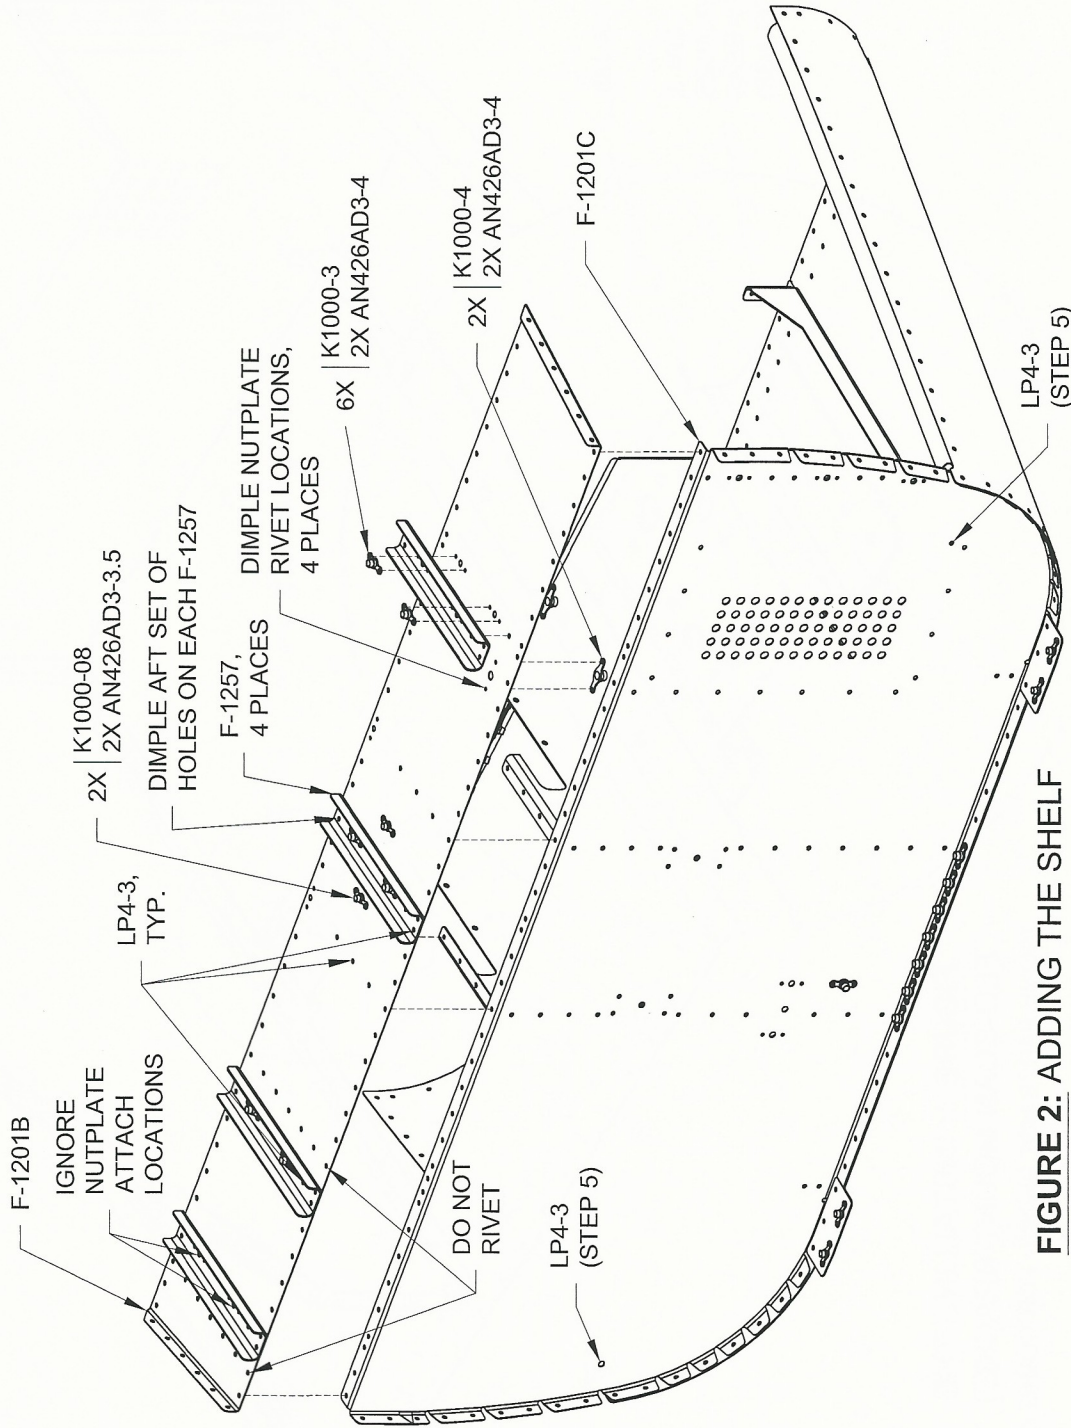

FIGURE 2: ADDING THE SHELF
Step 2: Dimple the aft two holes and nutplate attach holes in the F-1257 Rudder Support Channels. Dimple the corresponding holes in the F-1201B Firewall Shelf. See Figure 2.
Step 3: Dimple then rivet nutplates to the F-1201B Firewall Shelf and F-1257 Rudder Pedal Support Channels as shown in Figure 2.
Step 4: Smear a thin layer of fuel tank sealant on the top surface of the top flange of the F-1201C Firewall Bottom. Cleco then rivet the F-1201B Firewall Shelf and F-1257 Rudder Pedal Support Channels to the Fwd Lwr Fuse Assembly per the call outs in Figure 2.
Step 5: Fill the tooling holes on the F-1201C Firewall Bottom with blind rivets. See Figure 2.